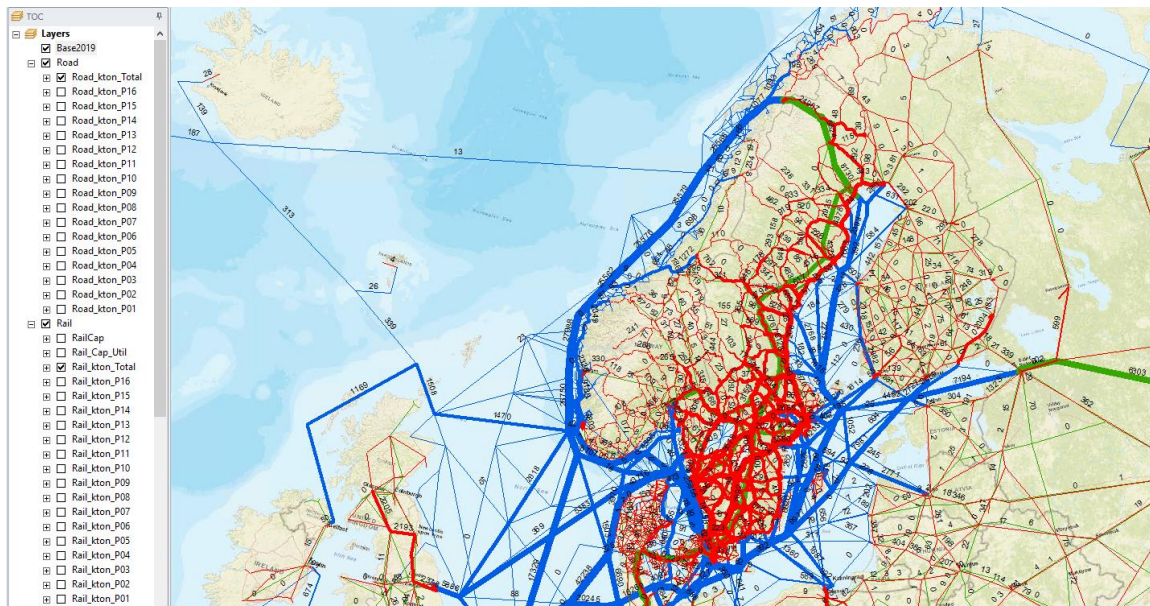
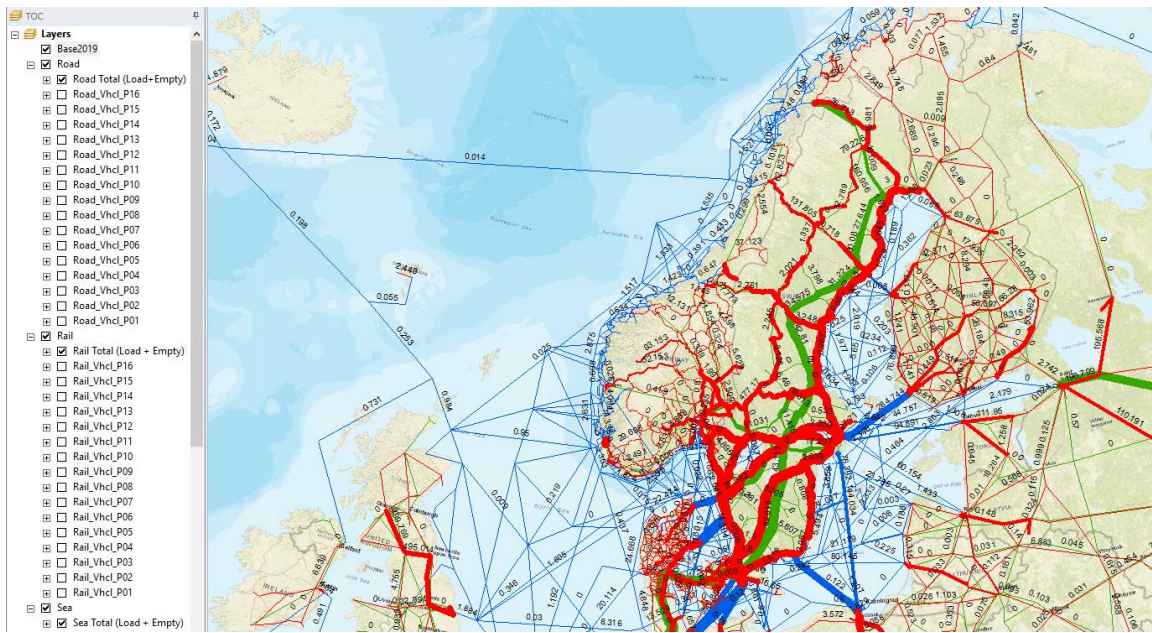

Figure 110 Standard map on ktons by total and commodity groups. (map name: Output_COM_RCM_GIS_TON.mxd)
Figure 111 Standard map on Loaded vehicles by total and commodity groups. (map name: Output_COM_RCM_GIS_VHCL.mxd)
- 1) Data Panel\Scenario Outputs\RCM Report\GIS maps – for total Ktons and vehicles per commodity group, see Figure 110 and Figure 111